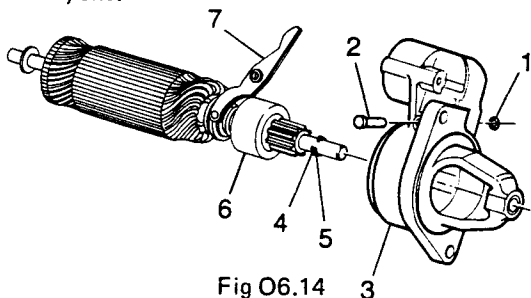

Fig O6.14
- (2) Refer to Fig O6.14. Remove the Spire retaining ring (1) from the drive engagement lever pivot pin (2).